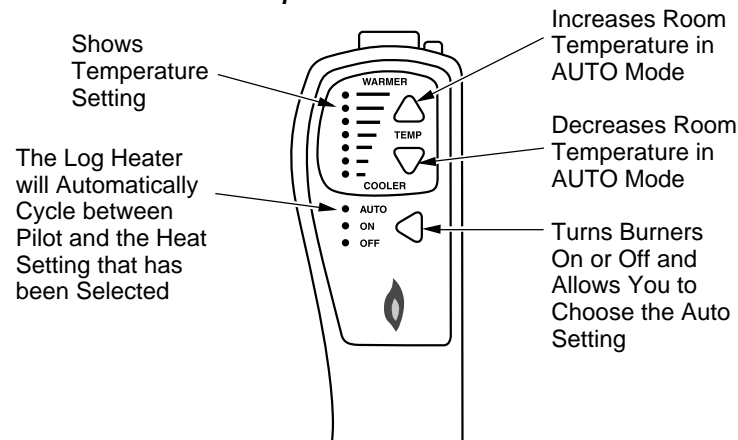

Figure 41 - Thermostat Hand-Held Remote Control Unit Selections (GHRCTA Only)
- 2b. Press the AUTO/ON/OFF button on the hand-held remote control (see Figure 41). The lights to the left of the button will show AUTO, ON, or OFF.